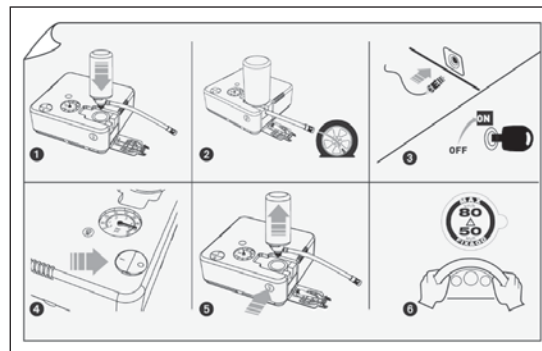

fig. 104
- ☐ instruction booklet fig. 104, for the quick and correct use of the Fix&Go;